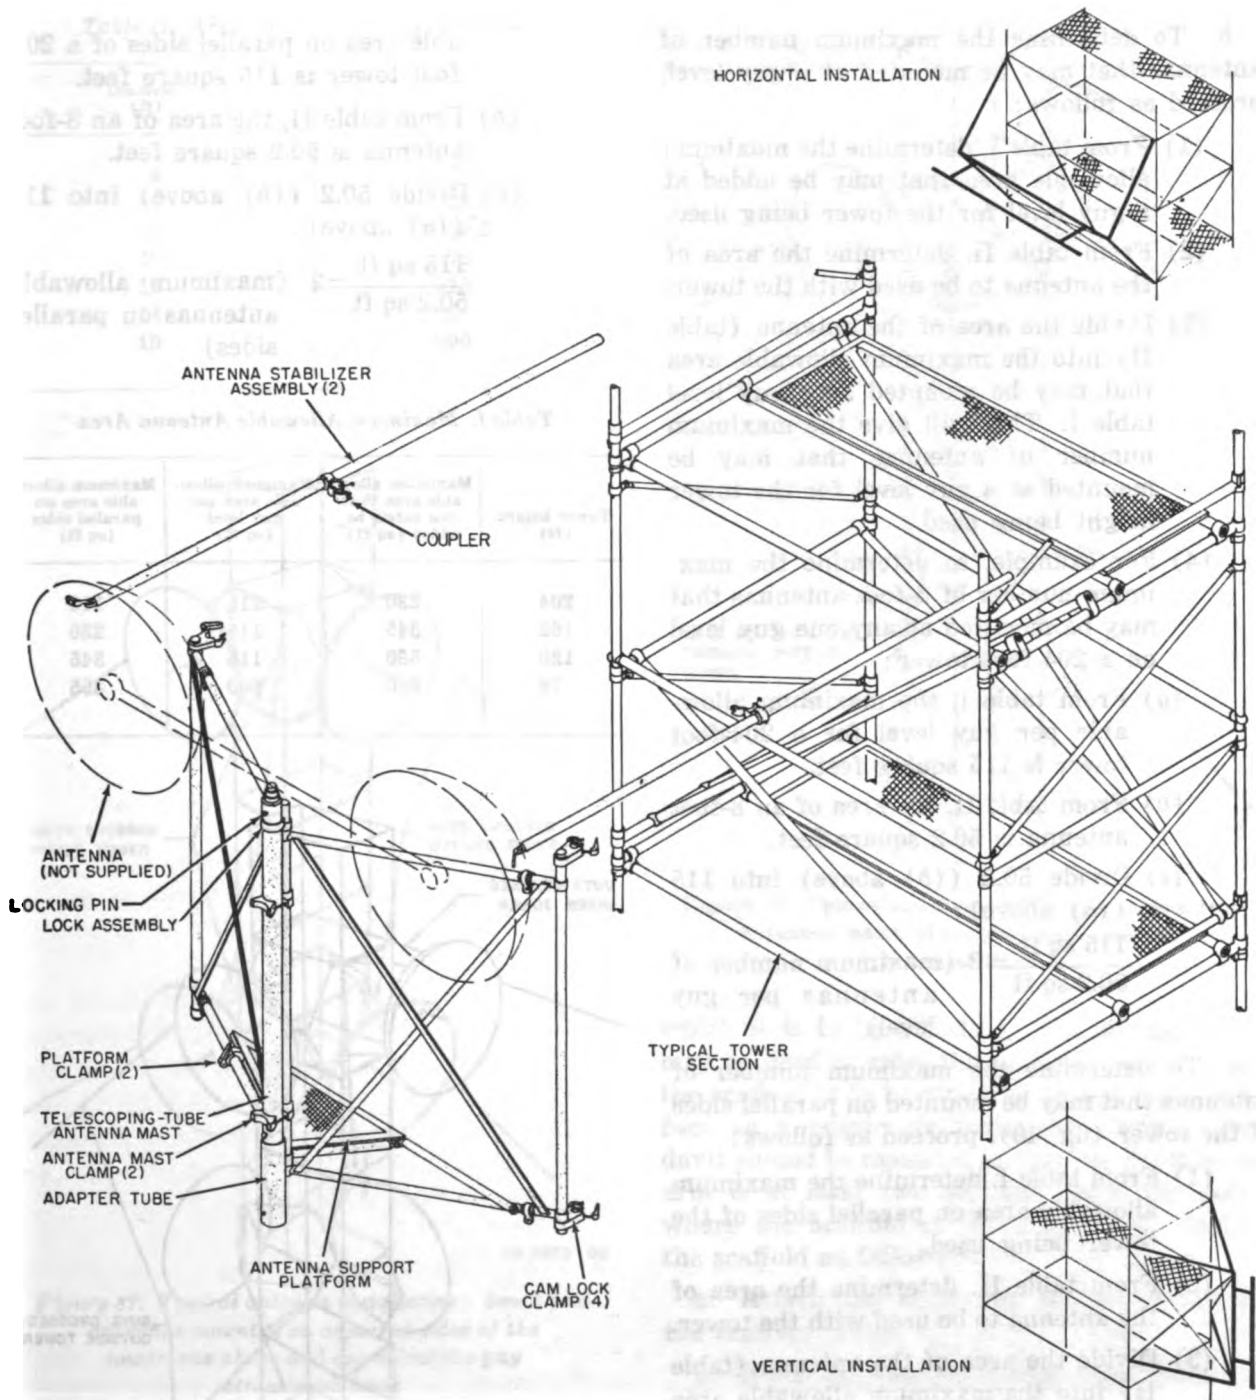

Figure 35. Installation of Antenna Support AB-296/G.
Antenna Support AB-296/G (fig. 35) must be installed at each location on the tower where an antenna is required. The antenna support may be mounted in a vertical position on either the wide or narrow side of the tower or in a horizontal position on the wide side of the tower. A telescoping-tube antenna mast is clamped to the center tube of the antenna support and will accommodate antenna with 4½-, 3½-, 3-, 2½-, 1⅞-, or 1⅜-inch diameter fittings. Two antenna supports are supplied with each Tower AB-216/U; additional antenna supports, if needed, may be requisitioned through normal supply channels. Antennas are not supplied with Tower AB-216/U. Instructions for assembling and installing specific types of antennas on the tower will be found in technical manuals covering the radio or antenna equipment used with the tower. Install the antenna support as follows:
attachment point, swing the davit boom arm toward the tower. Position the antenna support (fig. 35) and fasten the four cam locks to the vertical members of the tower.
d. After the antenna support has been installed, place the antenna support platform on the antenna support as shown in figure 35. Clamp the antenna support platform to the higher of the two tubes at the bottom of the antenna support, with the protruding tube of the antenna support platform resting on the lower tube of the antenna support frame.